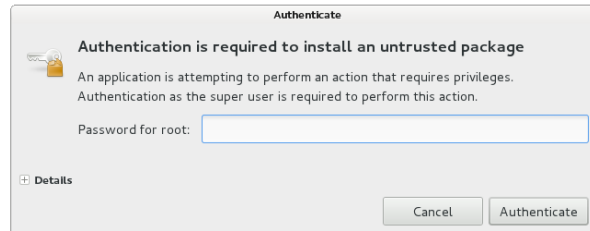

Figure 11: Fedora installer asking for the root password
3. Before the installation process is launched you have to enter the `sudo` password as shown in Figure 11. Please note that if you use the native package manager all dependencies will be installed automatically. If you use another package installer you probably have to install some dependencies manually before the installation of `2dx` will be launched.